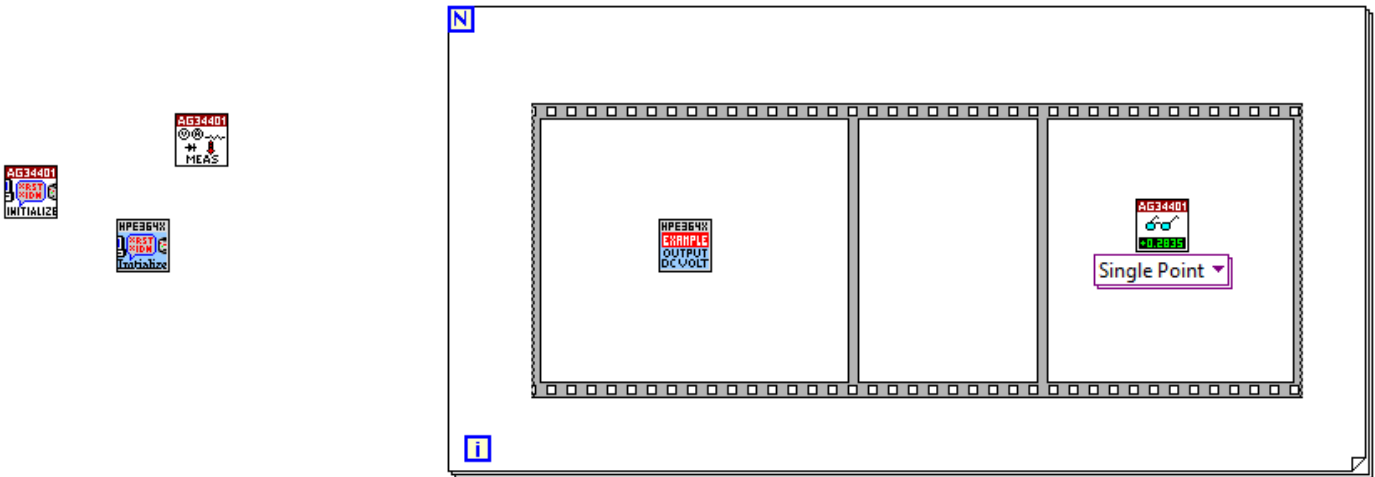

Figure 6. Intermediate Diagram Schematic
4. At this point your diagram should look like that shown in Figure 6.